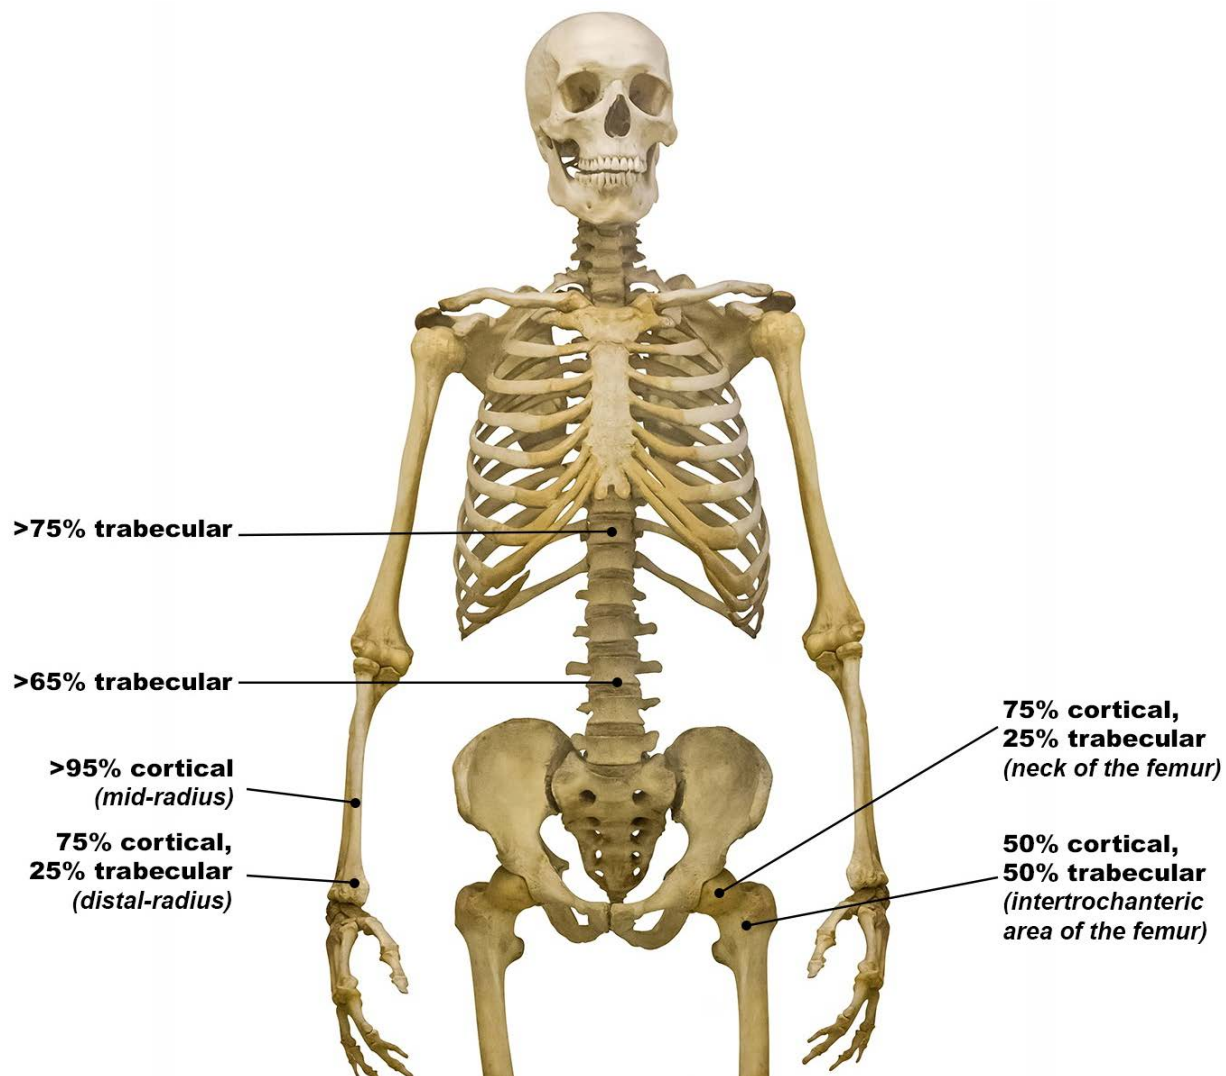

Figure 4-4. Cortical versus trabecular bone-structure percentages.
*Cortical bone* is the dense, outermost portion of a bone. It is present on all bones but is most recognizable on the shaft of long bones. Cortical bone encompasses bones to create a strong shell, which helps support weight and resist the forces of bending or twisting. Cortical bone makes up approximately 80 percent of our skeletal mass. Some predominant cortical sites are the femoral neck, the distal third of the forearm, and the phalanges. Figure 4-4 illustrates the approximate cortical versus trabecular bone make-up for various, common bone-density regions of interest.